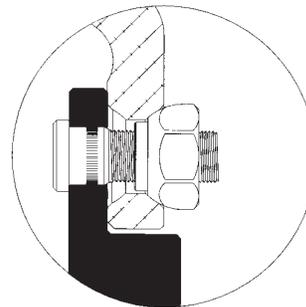

Figure 16
- ◆ For ¾" - 16 studs, special cap nuts with a collar must be used. (See Figure 16.)